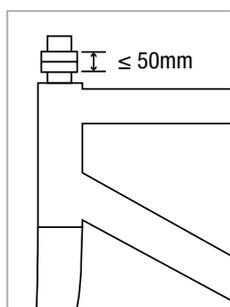

Figure 4
6. Add one or more spacers to steerer tube, ensuring the spacer stack does not exceed 50mm (Fig. 4).